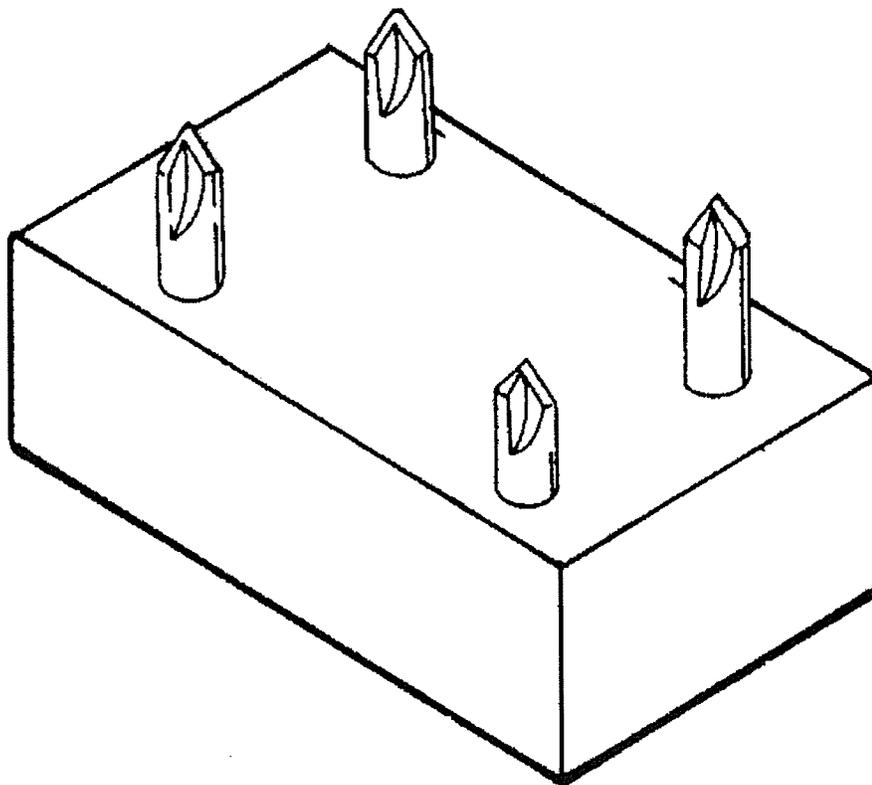

Figure 5-20. Tip Holder
t. The Tip holder (Figure 5-20) is cut out of rubber sheet (cellular medium) to retain Apex tips, drill bits, etc., secured with industrial adhesive PN 847 (04963) or equivalent.